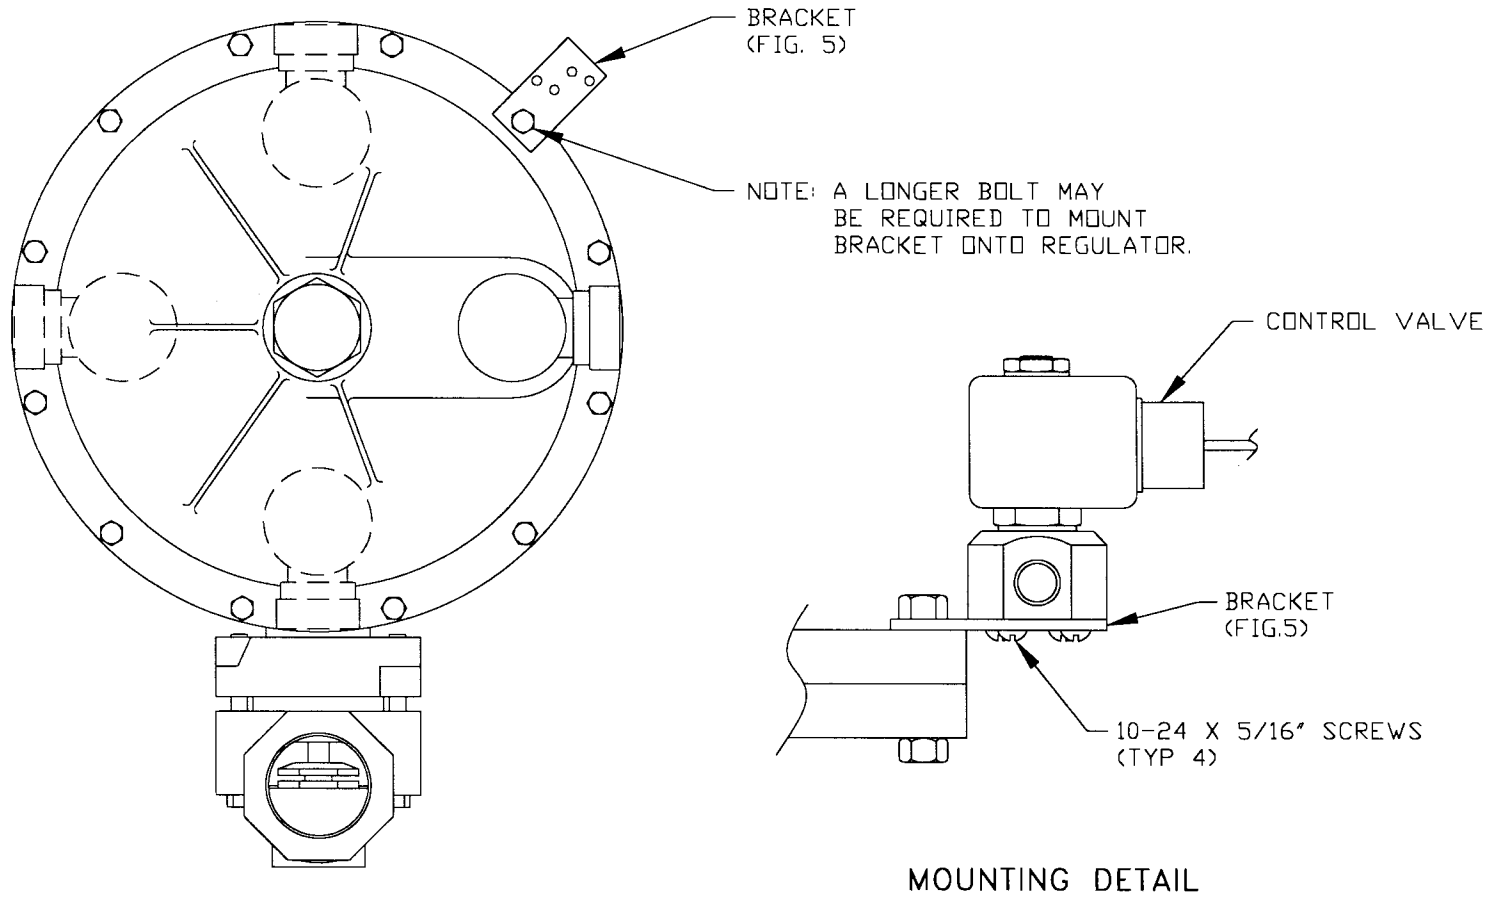

FIG. 7
- Figure 7: RECOMMENDED VALVE MOUNTING - This sheet shows a recommended mounting arrangement. It is recommended that the valve be mounted close enough so that the total line length from the valve to the regulator vent port does not exceed 1 foot for the 200 series, or 2 feet for the 99 series. This includes the line length from the vent port to the "T" and from the "T" to the valve but does not include the balance line from the intake or the vacuum port.